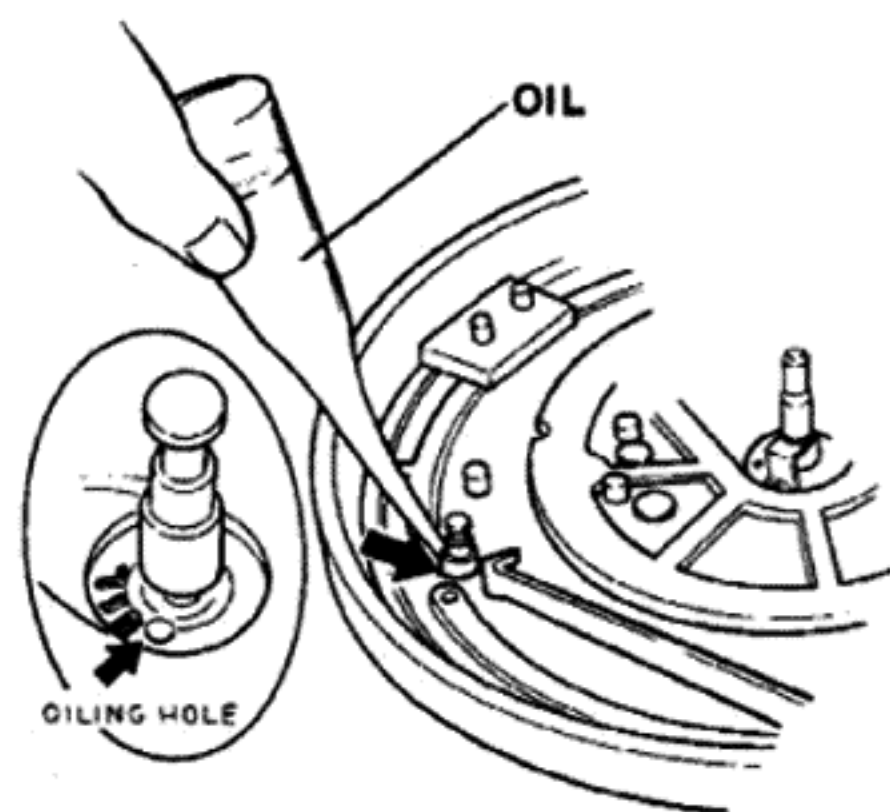

Fig. 20
5. Apply one or two drops of the accessory oil to the lubricating hole (Fig. 20), being careful not to get oil on parts such as the motor pulley, belt, or inner rim.